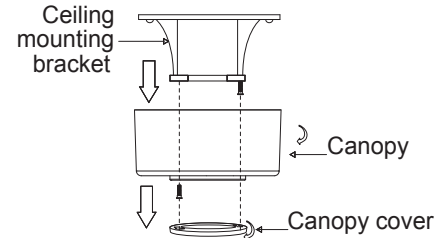

Fig. 5
**Step 1.** Remove the decorative canopy bottom cover from the canopy by turning the cover counterclockwise. (Fig. 5)
**Step 2.** Remove the ceiling mounting bracket from the canopy by removing (and save) one of the two screws. Loosen the remaining screw by a half turn. (Fig. 5)